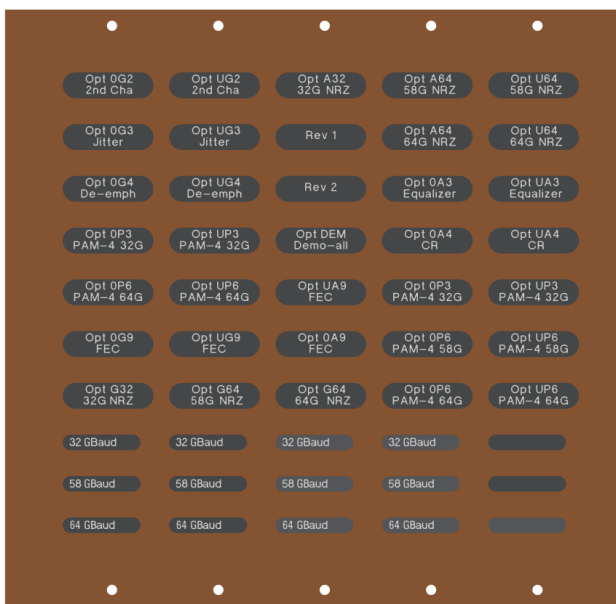

Figure 13 Option label sheet
Whenever the M8040A is upgraded with additional options, it is recommended that you affix the corresponding label(s) to the front panel of the module. The option labels provide a quick view of which options are installed in each module. **Figure 13** on page -41 shows the option label sheet provided with your M8040A system.
- 1 Locate the option label sheet shown in Figure 13 on page -41.